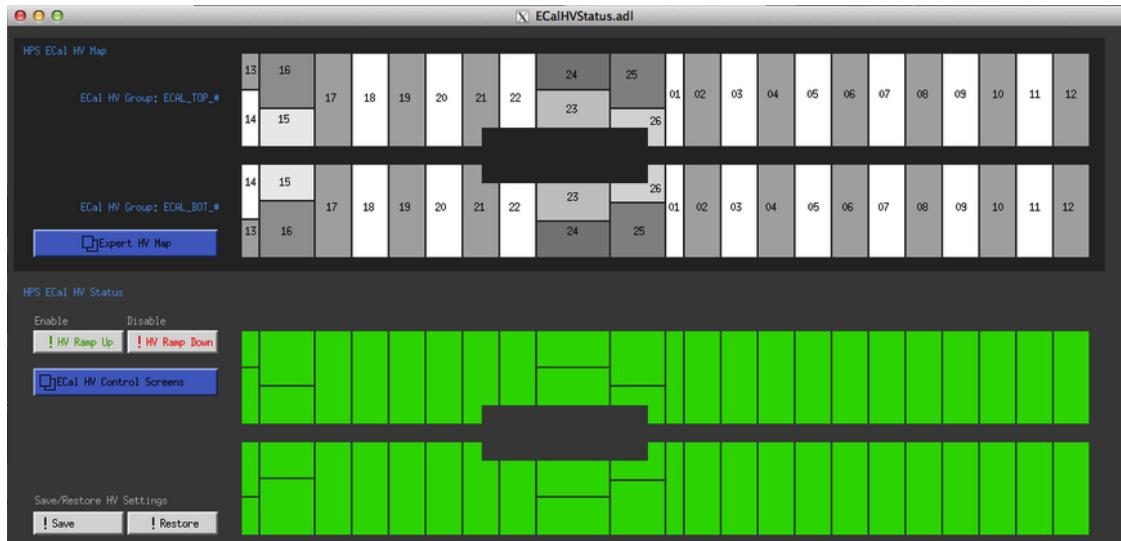
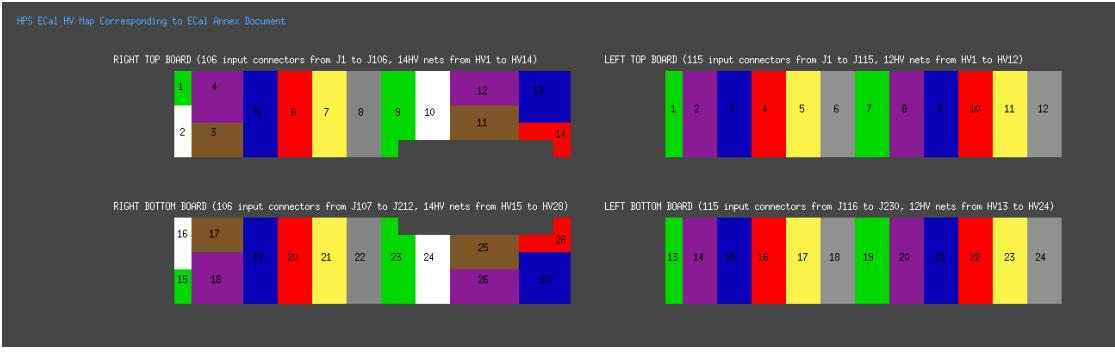
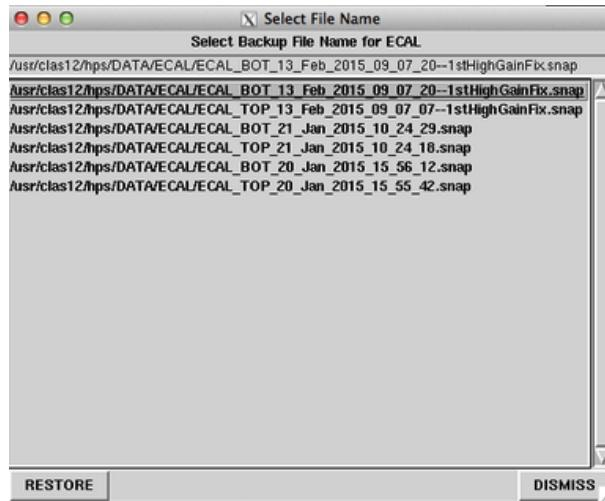

Figure 20: View of the EPICS ECal HV expert monitoring window.
Figure 21: Expert HV channel map for reference.
Figure 23: The gui interface to save/restore HV settings.
Occasionally the soft IOC for the HV needs to be manually restarted. Symptoms of this condition include errors messages from EPICS when trying to turn on/off voltages and white blocks in the main HV screen (figure 20).
**NOTE:** The ECal HV groups were renumbered for EPICS, and the correspondence map (figure 21) is available in the expert ECal HV monitoring window (Figure 20) via the “Expert HV Map” button.
A system to save and restore the entire calorimeter’s voltage settings is available via buttons in the ECAL HV expert window in Figure 20. If the voltage setpoints are changed, a backup should be made of the new settings. This must be run as a user in group `clas-4`; user `hpsrun` does not have sufficient privileges to save/restore voltage settings. An example of the restore window is shown in figure 23, which is accessible from the HV expert screen shown in Figure 20.